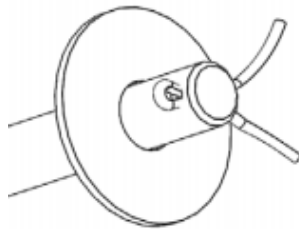

Figure 14
2. Insert one (1) 1/8" Cotter Pin into one end of a 3/4" Hinge Pin. Using Pliers, bend the tines apart and away from each other, securing it to the hinge pin as shown in Figure 14.
5. Attach a 3/4" Flat Washer and 1/8" Cotter Pin to the protruding end of the Hinge Pin. Using Pliers, bend the tines apart and away from each other, securing it to the hinge pin as shown in Figure 14.
6. Repeat this step three (3) more times, once for the opposite end of the Bunk, and twice for the second Bunk.